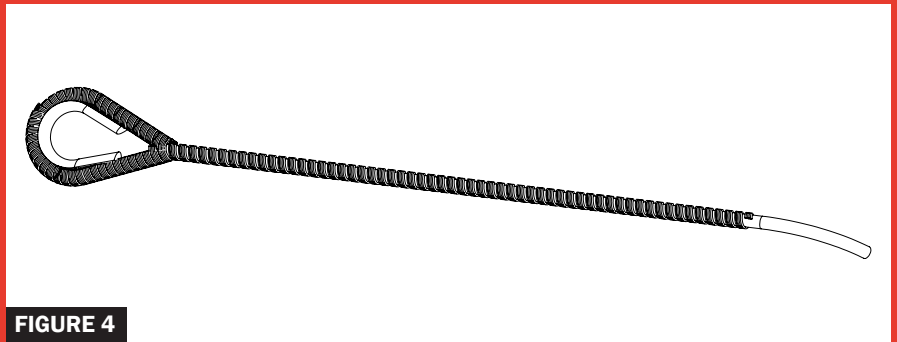

FIGURE 4
- It may be necessary to split a leg to complete installation of the grip. Be sure that all wire ends are snapped into place. A gap will be present between the wrapped legs when installation is completed (figure 4).
- Secure black tie wrap around grip at wire ends to secure ends. Tie wrap should be positioned to within one (1) inch of wire ends of short leg.